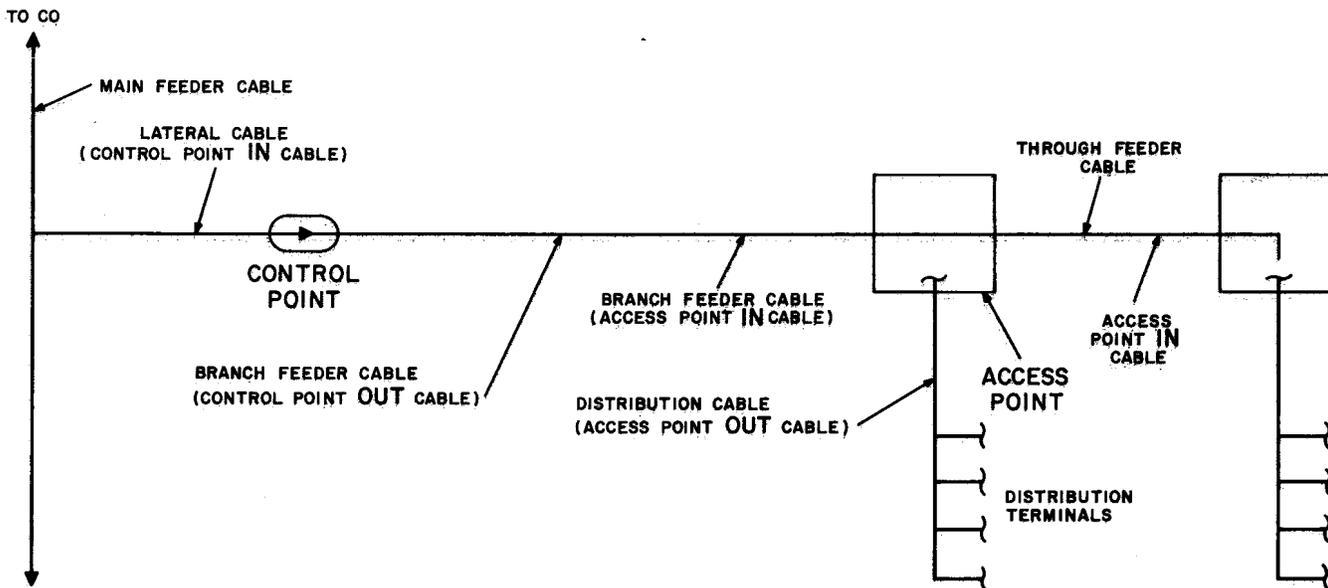

Fig. 1—Simplified Dedicated Plant Distribution System
**2.01** *Access Points* provide a means of connecting pairs in distribution cables to spare pairs in main or branch feeder cables. Cables entering access points from the central office or a preceding control point are termed *IN* or *EXPRESS* cables (Fig. 1). Cables leaving access points toward subscribers are termed *OUT* cables. Cables which originate in the access point assume the address of the access point, and the cable pair numbers assigned to the pairs in these cables begin at one (1) and continue up to the total number of pairs originating at this location. *EXPRESS* feeder cables leaving access points do not change designations.